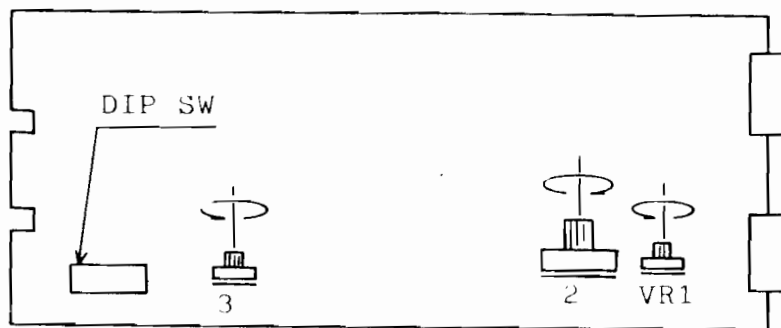

Fig. 4
7. Adjustments on Game PC Board (See Fig. 4 and Table 1,2)